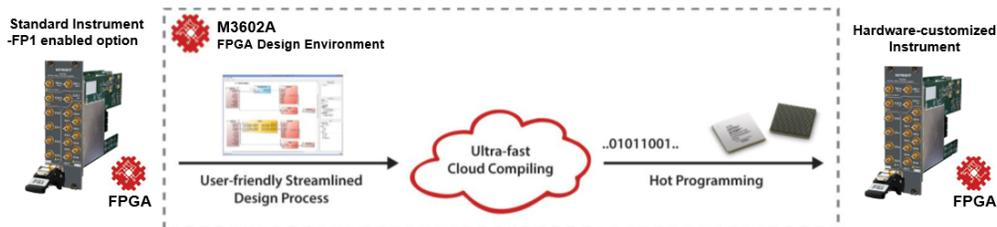

Figure 15: Keysight M3602A: a platform that provides the complete flow from design to FPGA programming
Keysight M3602A is a complete FPGA design environment that allows the user to customize M3XXXA PXle hardware products. M3602A provides the necessary tools to design, compile and program the FPGA of the module (Figure 15).
- Complete platform, from design to FPGA programming: Keysight M3602A provides the necessary tools to design, compile and program the FPGA of the module (Figure 15)